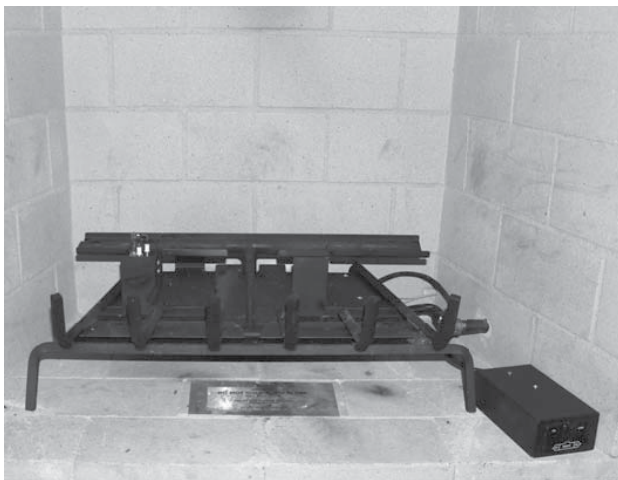

Fig. 5 - Remote box location
4. Place the burner system down so that it rests on the burner grate legs. Center the burner toward the rear of the fireplace. (Reference Fig. 5 for orientation.)
8. Place the remote receiver box at the right front corner of the fireplace. Be sure to run its wire in between the two grate legs on the right side of the burner system, and that the wire remains away from the burner system and its flame during operation. (See Fig. 5.)